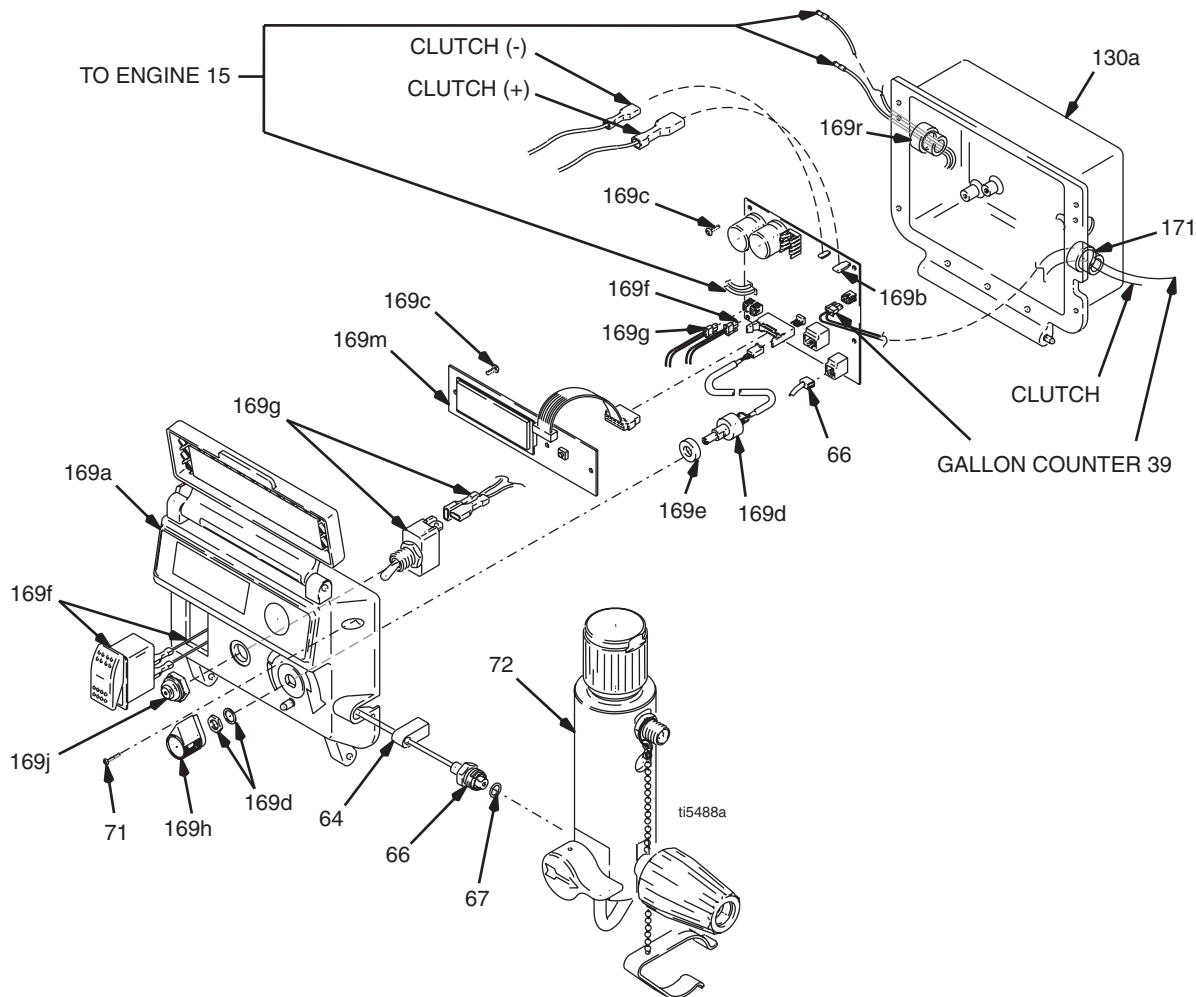

FIG. 10
1. FIG. 10. Install drive shaft assembly (19c). Install retaining ring (19b)
1. FIG. 10. Remove two screws (71) and swing down cover (169a).
- FIG. 10. Remove two screws (71) and swing down cover (169a)
- Lead from transducer (66)
- FIG. 10. Install control board (169b) with four screws (169c).
- Install control box (169a) with four screws (71).
- Disconnect transducer (66) lead from control board (169b).
- Pull transducer connector through rubber grommet (113).
- Remove pressure control transducer (66) and o-ring (67) from filter housing (72).
- FIG. 10. Install o-ring (67) and pressure control transducer (66) in filter housing (72). Torque to 35 - 45 ft-lb.
- Connect transducer (66) lead to control board (169b).
- Swing up cover (169a) and secure with two screws (71).
- FIG. 10. Install potentiometer, shaft nut, lock washer and potentiometer knob (169h).